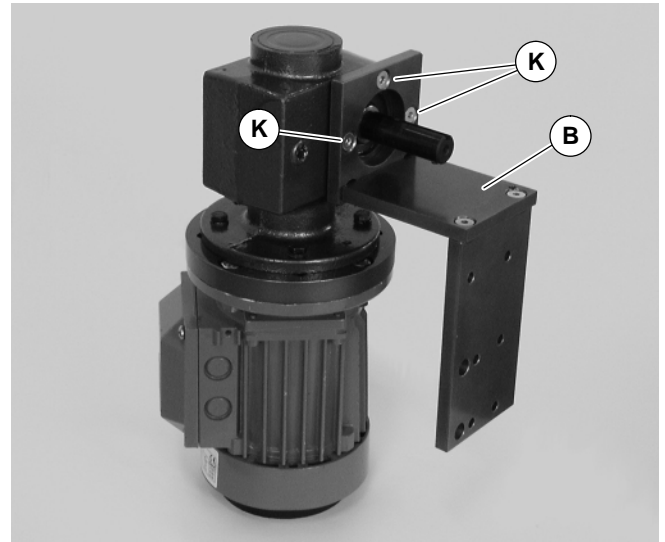

Figure 11
5. Remove three (3) screws (K of Figure 11) and remove mounting bracket (B).
12. Attach mounting bracket (B of Figure 11) to gearmotor with screws (K). Tighten screws to 110 in-lb (12 Nm).